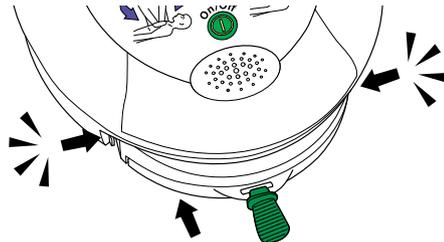

Figure 4. Inserting a Pad-Pak
3. Place the samaritan PAD face up on a flat surface and slide the Pad-Pak into the samaritan PAD (see Figure 4) until you hear the “double click” to indicate that the tabs on the right and left sides of the Pad-Pak are fully engaged.